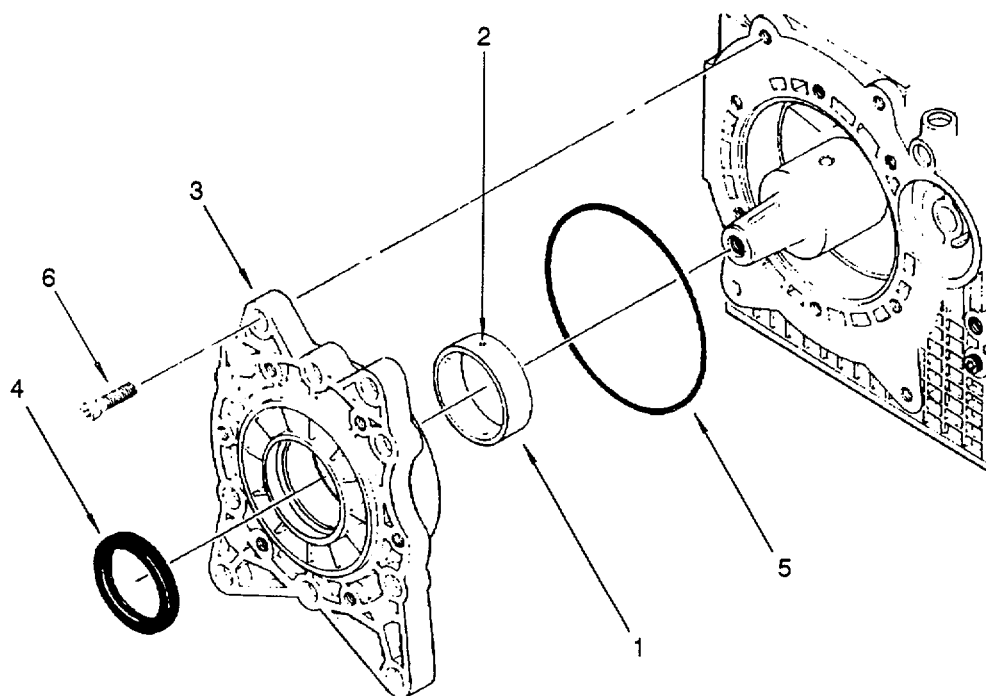

Figure 6-24. Rear Crankshaft Support Installation
- l. Using a warming oven, heat crankshaft gear (7) to 356°F - 392°F (180°C - 200°C) for 20 to 30 minutes.
- m. Install key (8) on flywheel end of crankshaft (3).
- n. With crankshaft gear (7) timing mark facing flywheel end, install hot crankshaft gear over key (8) on crankshaft (3). Allow crankshaft gear (7) to cool down. Remove screwdriver and thickness gage from crankcase.
- o. Check crankshaft end float clearance between crankcase and crankshaft gear (3). Clearance should be 0.004-0.0008 in. (0.10-0.20 mm). Crankshaft (3) should turn freely.
6.4.2 Install Rear Crankshaft Support. (Refer to figure 6-24.)